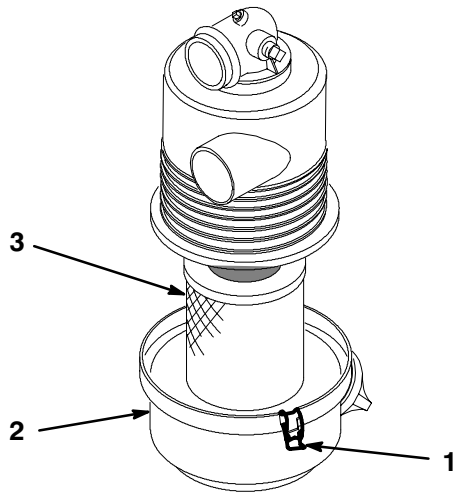

Figure 19
3. Release latches securing air cleaner cover to air cleaner body. Separate cover from body. Clean inside of air cleaner cover (Fig. 19).
4. Gently slide filter out of air cleaner body to reduce the amount of dust dislodged (Fig. 19). Avoid knocking filter against air cleaner body.